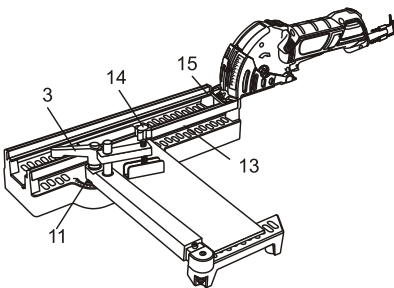

Fig. 13
2. Loosen the miter adjusting lever (3) by turning it counter clockwise (Fig. 13).
3. Rotate the inner support arm to the appropriate angle (11) and tighten the miter adjusting lever.